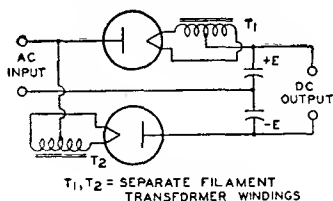

Fig. 45
**A voltage-doubler** circuit of simple form is shown in Fig. 45. The circuit derives its name from the fact that its dc voltage output can be as high as twice the peak value of ac input. Basically, a voltage doubler is a rectifier circuit arranged so that the output voltages of two half-wave rectifiers are in series.
So long as no current is drawn at the output terminals from the capacitor, each capacitor can charge up to a voltage of magnitude  $E$ , the peak value of the ac input. It can be seen from the diagram that with a voltage of  $+E$  on one capacitor and  $-E$  on the other, the total voltage across the capacitors is  $2E$ . Thus the voltage doubler supplies a no-load dc output voltage twice as large as the peak ac input voltage. When current is drawn at the output terminals by the load, the output voltage drops below  $2E$  by an amount that depends on the magnitude of the load current and the capacitance of the capacitors. The arrangement shown in Fig. 45 is called a full-wave voltage doubler because each rectifier passes current to the load on each half of the ac input cycle.